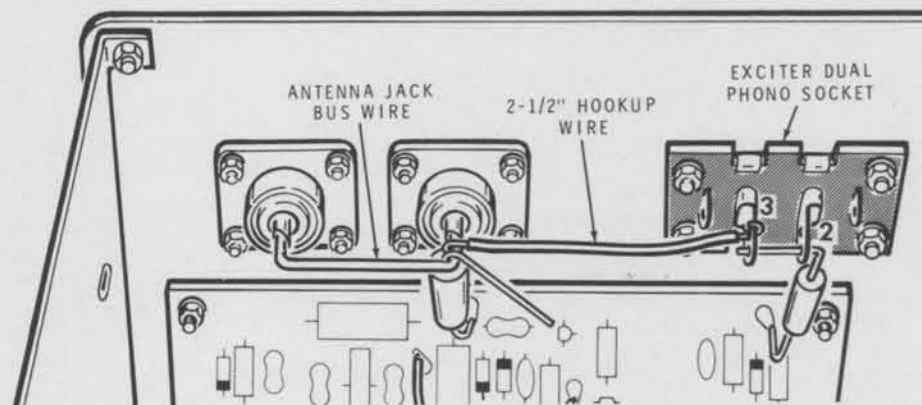

Figure 3-2
- () Refer to Figure 3-2 and temporarily connect a 2-1/2" length of hookup wire from the Antenna jack bus wire to lugs 2 and 3 of the EXCITER dual phono socket.